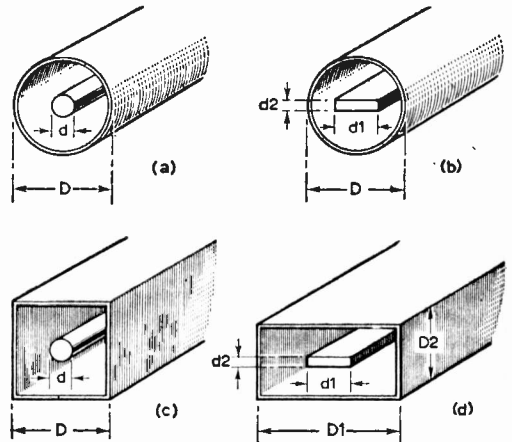

Fig. 6: Coaxial structures. The characteristic impedances of these are given in the text.
Fig. 6: Picture aspect and scan format. The picture and sync signals occupy ABCD, the scan format. Line and field sync pulses take the proportions of the lines shown, leaving AEEF for the screen: the aspect ratio is 4:3. Twin-interlace traces 377 visible lines out of its total 405. Three-field scanning can trace 583 contiguous lines out of 625. The scan unit and scan format have the same shape, ratio 3:2.
Figure 6 represents (a) part of a line of theoretical square elements, 1 to 6, with element E indicating the thickness and scanning pitch. Practical half-element point S, starting at 1, is clearly able to move freely before entering 2. The total movement of S within 3 is seen to cover a practical "scan unit" SU, which is one element long but only two-thirds as high. The dimensional ratio of SU is 3 : 2, so this must replace the "square element" idea in any formula intended for a really "complete" picture traced to cover the screen with contiguous lines.
Figure 6 (b) represents the scan format of our 405 standard; as it is at present, and with its potential to improve to 625 quality shown for comparison by measurement in real scan units whose shape (see SU) is identical to that of format A B C D (ratio 3 : 2). The elemental dimensions (in brackets) of the current vision channels are 405 high and approximately 614 wide. Each picture line (AE) is about 503 elements long, but only 377 lines are traced within A E F G by twin-interlacing (188½ lines per field) to cover two-thirds of the screen, leaving room for a 50 per cent increase, from 405 to over 600 lines.
Figure 6 shows a number of coaxial structures which can be used or which are, in fact, already in use. That at (a) is the type of structure that
The nature and dimensions of the coaxial structure used determines the Z_0 of the resonator and, in turn, the Z_0 effects the resonant length. Z_0 also influences the loading of the line to the active circuit device (i.e., transistor or valve) and in this way has a bearing on the response bandwidth, in rather a similar manner to R_d of an LC circuit. The Z_0 of pure coaxial ((a) in Fig. 6) is expressed as:
Resonators should be constructed with fairly thick pieces of tinned or silver-plated sheet steel, and the inner conductor should be supported within the centre of the outer conductor on low-loss insulating material. Copper tube can be used for the type of resonator shown at (a) in Fig. 6, and low-loss discs for pushing into the tube can be made for holding the inner conductor concentric. The far end of the tube can be shorted to the inner conductor by a metal disc of diameter equal to the outer diameter of the tube. At the launching end it is not too difficult to arrange for the transistor to be mounted along with its supply resistors and etc. In this way a very com-